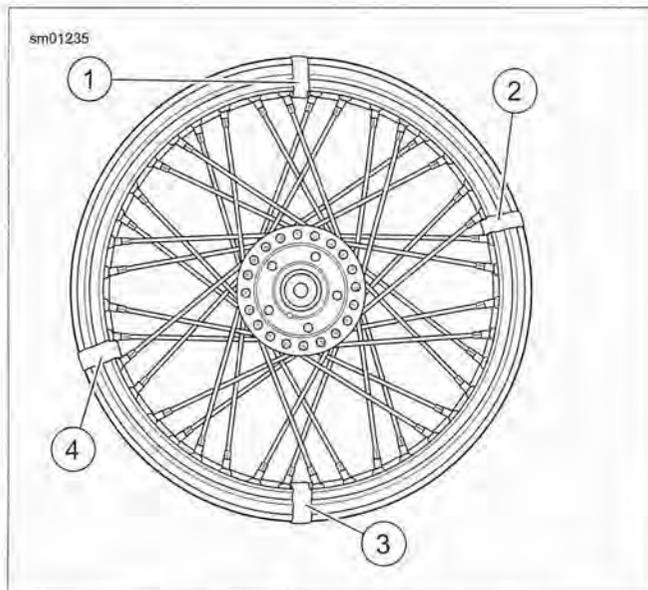

Figure 2-31. Marking Spoke Groups
1. See Figure 2-31. Place a piece of tape to mark the center of each group of four spokes as shown. The groups should be directly opposite one another and approximately 90